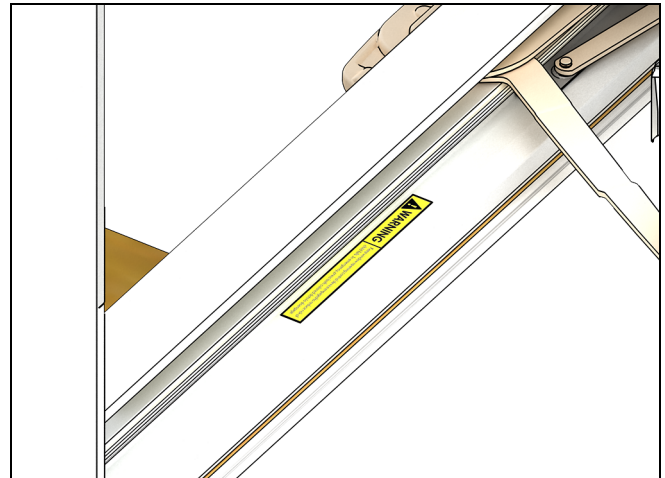

Figure 11 Place the WOCD sticker on clean exterior sill Ultrex.
- For all ESCA without a guide track, clean the exterior sill Ultrex and place the WOCD sticker on the exterior sill Ultrex in line with the hinge track, readable from the interior, 2" to 3" from the locking-side jamb. See Figure 11.